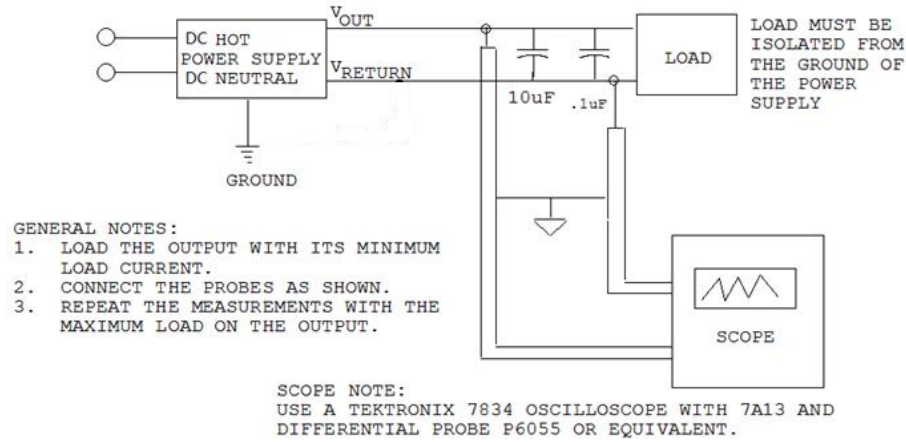

Figure 7. Output ripple Test Setup
**NOTES:** Load must be isolated from the safety ground to Figure 7.